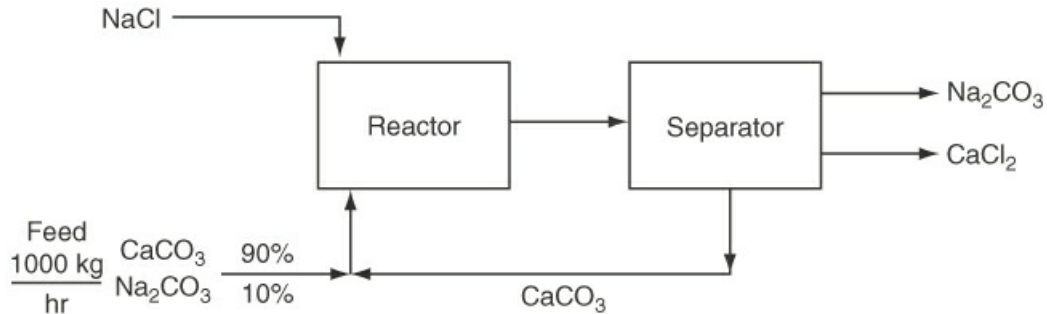

Figure P5.3.12
- **5.3.12** Examine Figure P5.3.12. NaCl and the feed solution react to form $CaCl_2$. In the reactor, the conversion of $CaCO_3$ is 76% complete. Unreacted $CaCO_3$ is recycled. Calculate (a) the kilograms of Na_2CO_3 exiting the separator per 1000 kg of feed, and (b) the kilograms of $CaCO_3$ recycled per 1000 kg of feed.